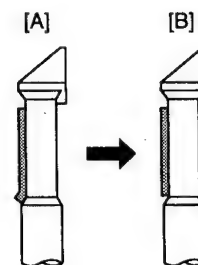

Fig. 1-7-5 No. 8 guide rough adjustment check
- Turn the ACE tilt adjusting screw until tape wrinkle is caused at the lower flange of No. 8 guide as shown in Fig. 1-7-5 [A].
- Turn the ACE tilt adjusting screw counter-clockwise until the tape travels along the lower flange as shown in Fig. 1-7-5 [B].